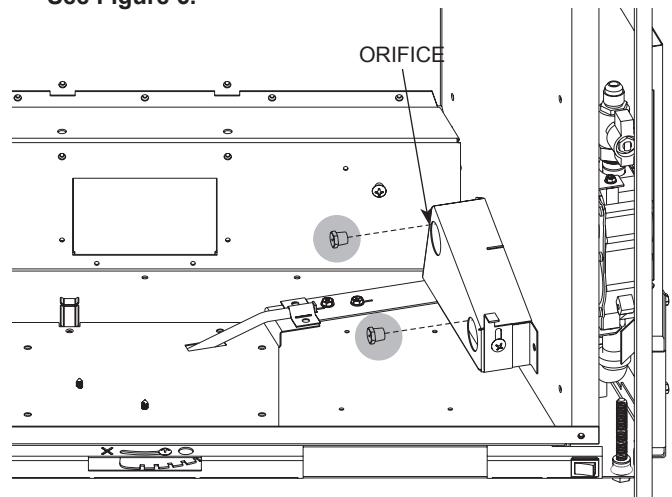

Figure 6
6. Use a 7/16 inch deep socket wrench to remove orifices. See Figure 6.